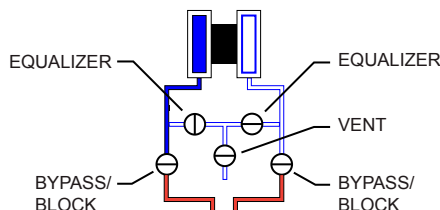

Figure 2.28 - Valve positions for differential pressure calibration
1. Close the bypass valves to isolate the pressure below the manifold (Figure 2.28).